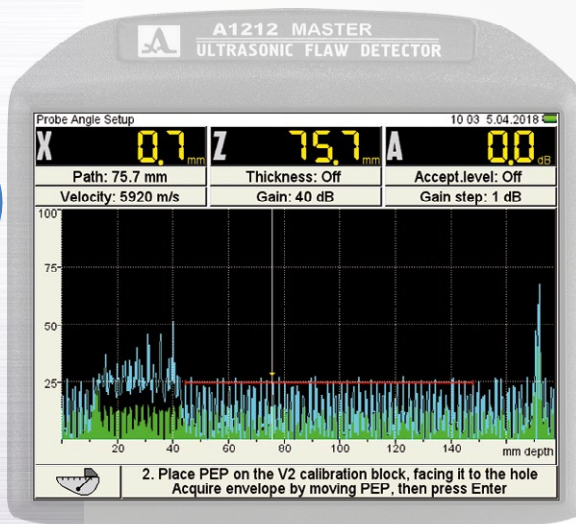

Figure 12
- scan the hole in the sample (Figure 11), get the time envelope of the signals (Figure 12) and press the key **Enter**;